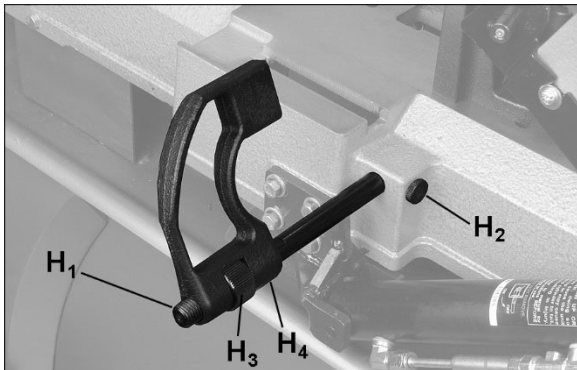

Figure 6-6: installing work stop (712D only)
5. **712D only:** Install work stop rod (H1, Figure 6-6) into hole and tighten knurled nut (H2). Install work stop onto rod threads by rotating collar (H3). Secure position of work stop by tightening set screw (H4) onto rod flat.